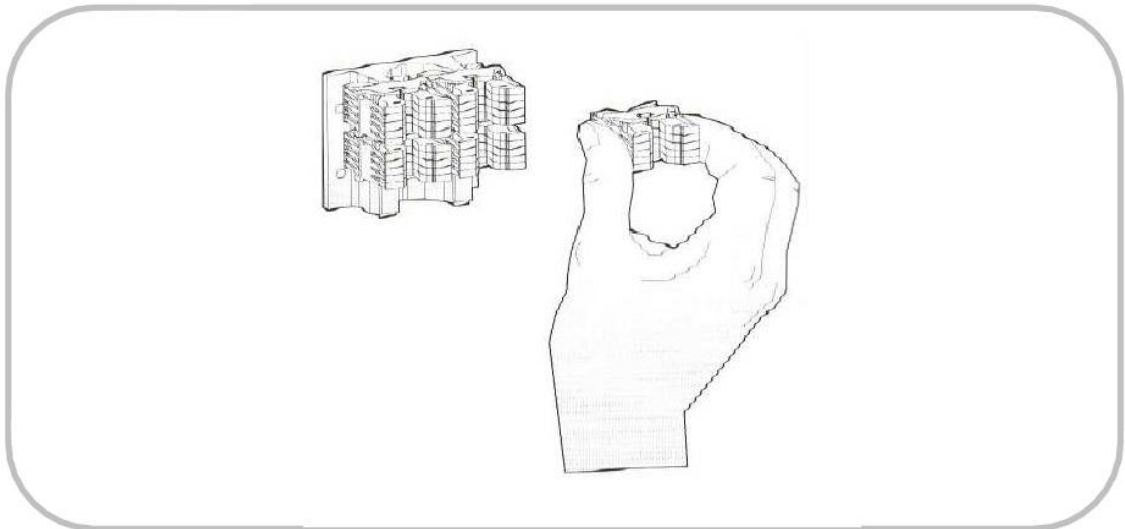

Fig. 9. The cluster by hand and replace
3. Remove the cluster by hand and replace it if necessary. (Refer to Fig. 9.)